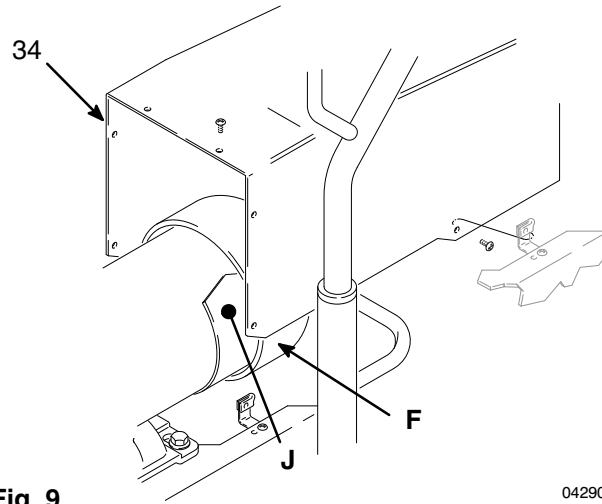

Fig. 9
Remove the motor shield (34), the fan cover (F) and the inspection covers (J). See Fig. 9.